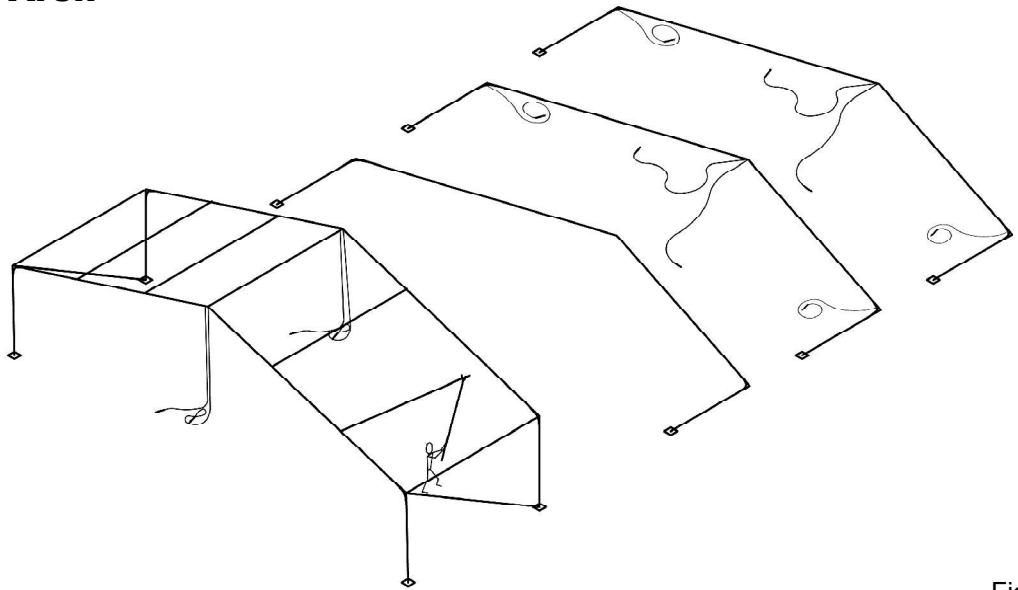

Figure 3.3b
3.3.3 Using the same technique with the narrow cradle purlin fork (supplied in the installation kit), install the remaining roof purlins, making sure that the curved hook on the roof purlin is properly engaged in the rafter bracket before swinging the opposite end in place as shown in **Figure 3.3b**.